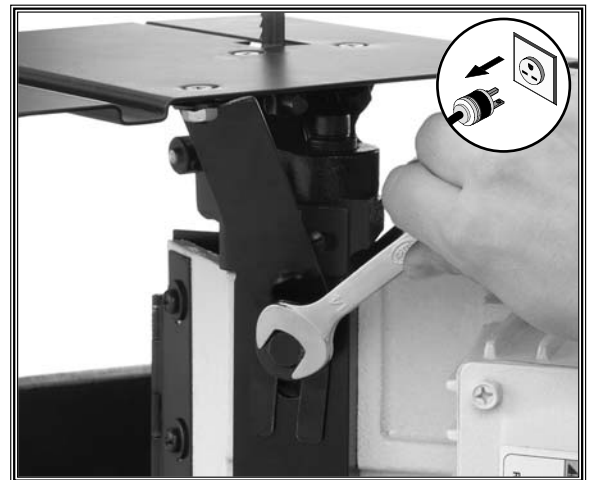

Figure 23. Installing the table support.
5. Use a 14 mm wrench to loosen the blade guide lock bolt and install the table support as shown in **Figure 23**.